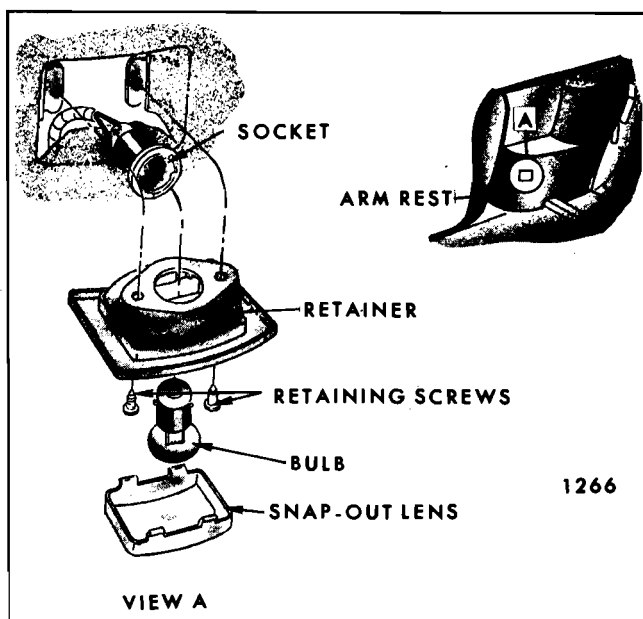

Fig. 14-24—Rear Quarter Arm Rest Courtesy Lamp Assembly
- f. On styles equipped with rear quarter lamp assemblies, disconnect lamp as shown in Figure 14-24.